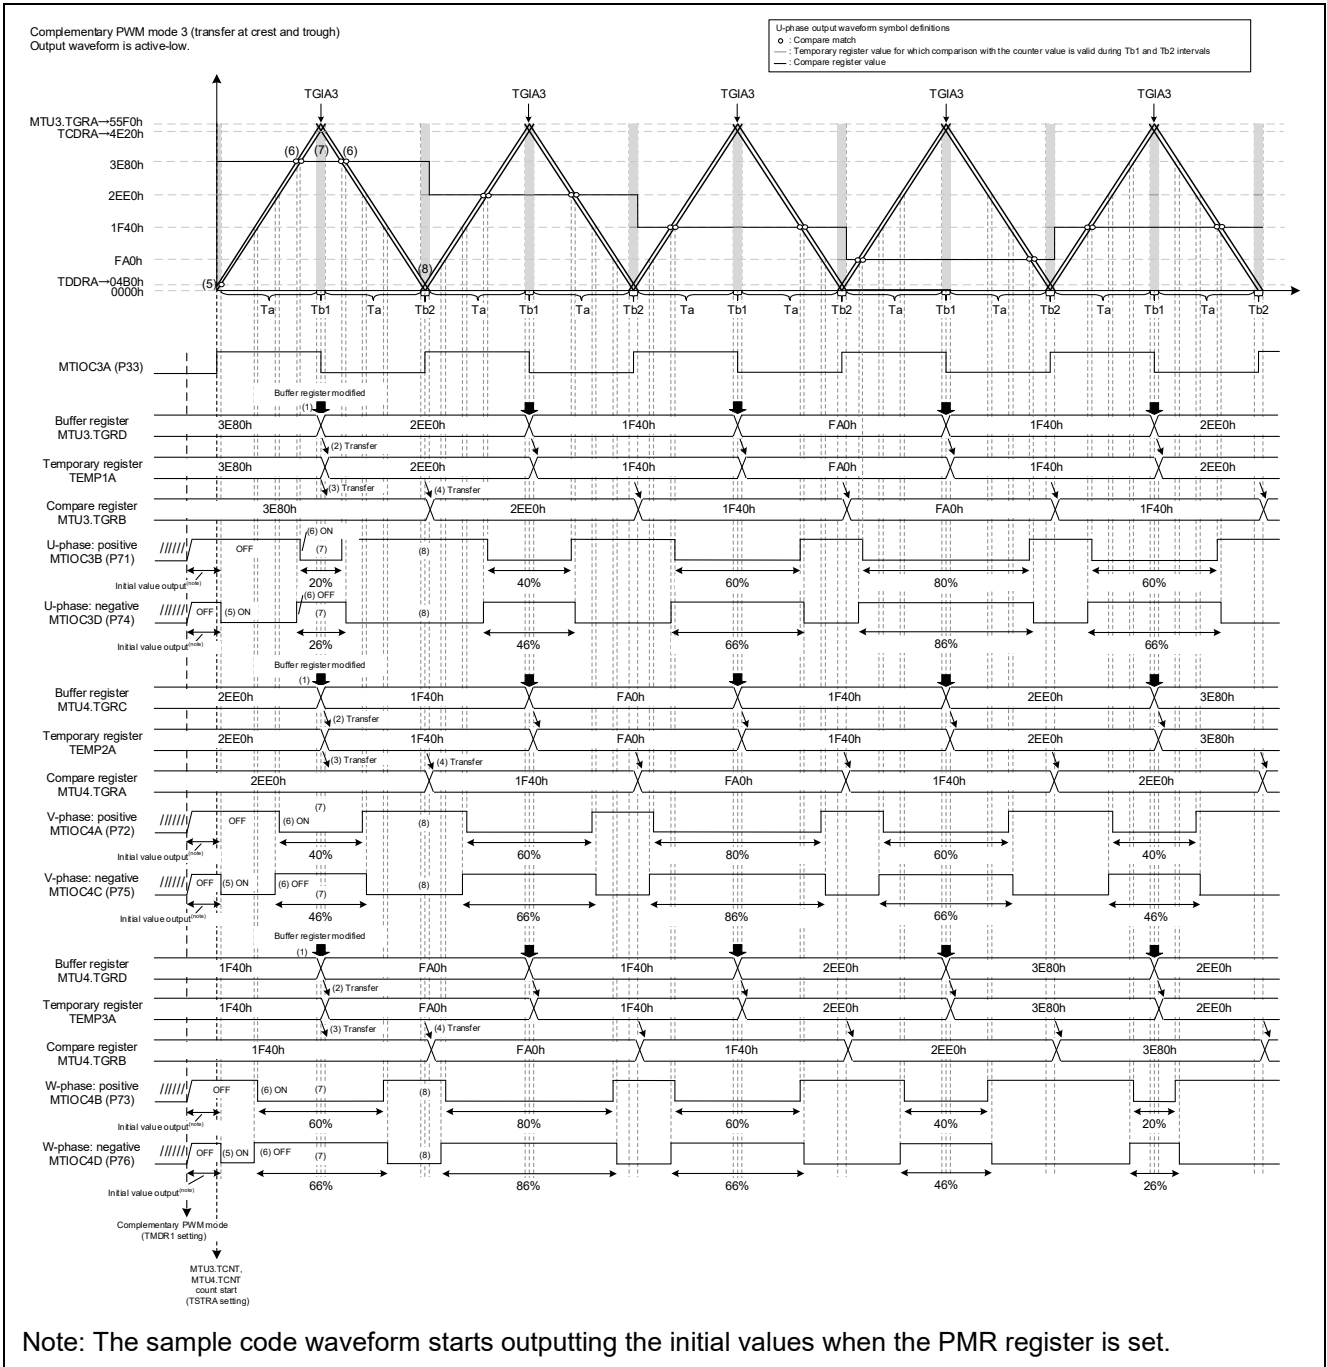

Figure 3.62 Sample Code Operations
- Refer to Figure 3.62 details on initial value of buffer register
- Refer to Figure 3.62 for details on the timing for duty cycle changes
The sample code operations are shown in Figure 3.62. The settings of the duty cycle are changed with each period by modifying the values of the buffer register (MTU3.TGRD, MTU4.TGRC and MTU4.TGRD) at the compare match interrupt (TGIA3) of the MTU3.TGRA register, which is set to the upper limit value of MTU3.TCNT ((1) in Figure 3.62).
Writing MTU4.TGRD at the end of the buffer register modification enables data transfer from the buffer register to the temporary register. When MTU4.TGRD is written in the Ta interval, the data written to the buffer register is immediately transferred to the temporary register, but in this sample code, MTU4.TGRD is written in the Tb1 interval, so the data is transferred to the temporary register after the Tb1 interval ends ((2) in Figure 3.62).
Since this sample code uses complementary PWM mode 3 for crest and trough transfers, the compare register updates the data by transferring from the temporary register at the end of the Tb1 interval ((3) in Figure 3.62) and at the end of the Tb2 interval ((4) in Figure 3.62).
Initial output is OFF for both positive-phase output and negative-phase output according to the settings of TOCR2A bits OLS1P, OLS1N, OLS2P, OLS2N, OLS3P, and OLS3N. After setting the complementary PWM mode in MTU3.TMDR1, output continues until MTU4.TCNT is greater than the value of the TDDRA register ((5) in Figure 3.62).
1. A compare match between the compare register and the counter register occurs in the Ta interval, the negative-phase output turns OFF, and then the positive-phase output turns ON. ((6) in Figure 3.62).
2. The compare register and temporary register are enabled in the Tb1 interval, but because a compare match with the counter register does not occur, the waveform does not change. ((7) in Figure 3.62).
3. The compare register and temporary register are enabled in the Tb2 interval, but because a compare match with the counter register does not occur, the waveform does not change. ((8) in Figure 3.62).